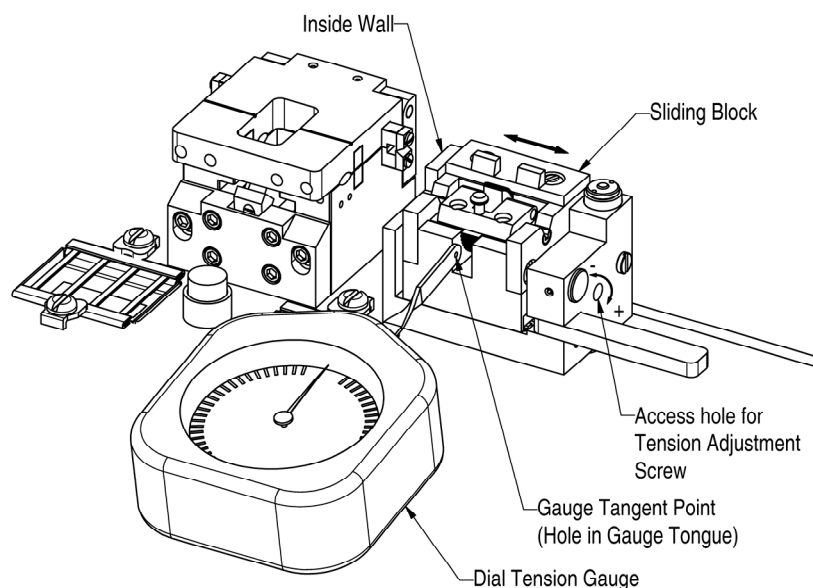

Figure 53 **Adjust Cleave Tension**
3. Engage the dial tension gage with its tangent point on the sliding block of the FHB as shown in Figure 53. "Pre-load" the tension gauge until it reads slightly below the desired cleave tension.
5. If the cleave tension needs adjustment, access the tension screw with a 0.050" hex key through the access hole in the FHB (Figure 53). Increase the tension by turning the screw clockwise; decrease the tension by turning the screw counter clockwise. One full turn of the screw adjusts the tension approximately by 20 grams.